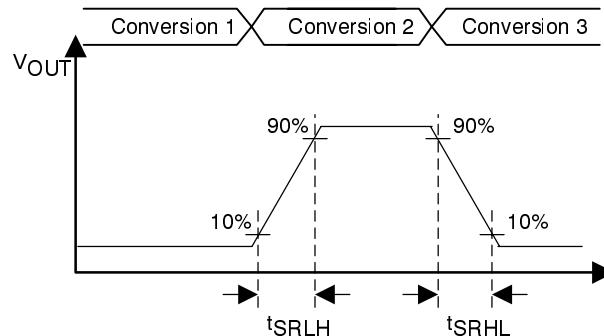
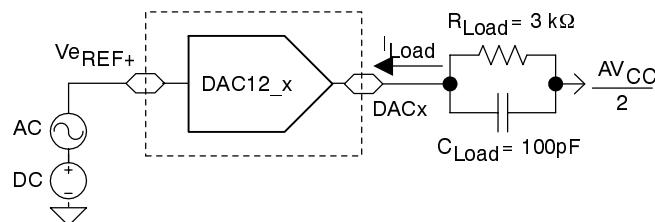

**Figure 45. Settling Time and Glitch Energy Testing**
**Figure 46. Slew Rate Testing**
**12-bit DAC dynamic specifications, Vref = VCC, DAC12IR = 1 (see Figure 45 and Figure 46)**
1. RLoad and CLoad are connected to AVSS (not AVCC/2) in Figure 45.